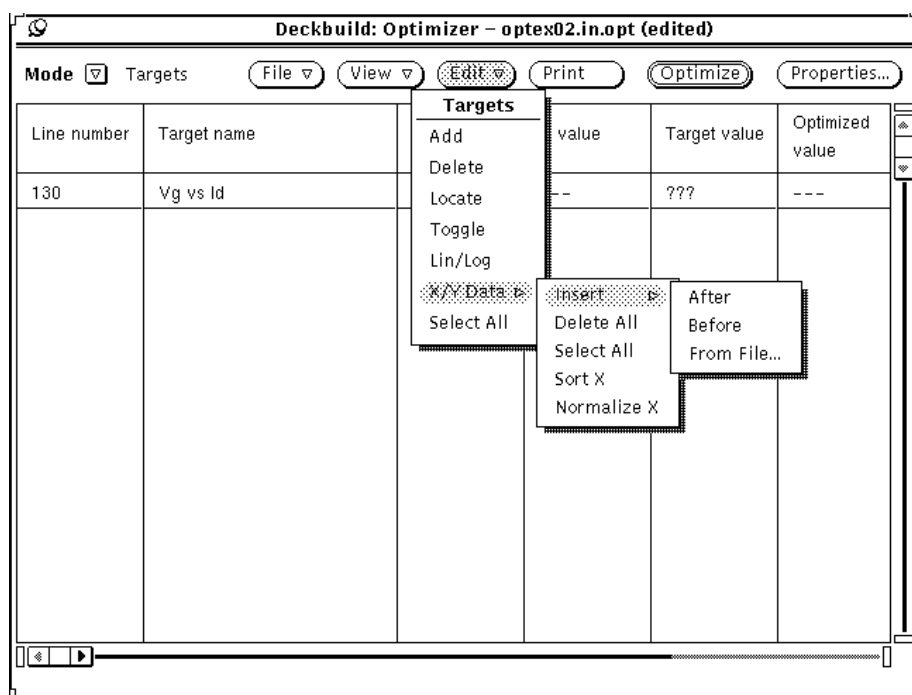

Figure 6-15: Target X/Y Data Menu
A new row is inserted into the **Target** worksheet for the selected extract statement (Figure 6-15). The rows are always ordered by line number.
2. Choose **Edit**→**X/Y Data**→**After** (Figure 6-15). A new row will be inserted after the selected row. You can insert additional data rows either before or after any other data row.